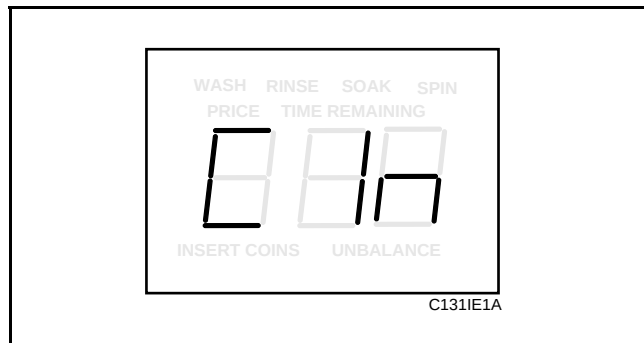

Figure 89
3. Press the DELICATES (+) pad or the COLD (–) pad to scroll through the programmable options until “CIn” appears in the VFD. See **Figure 89**.